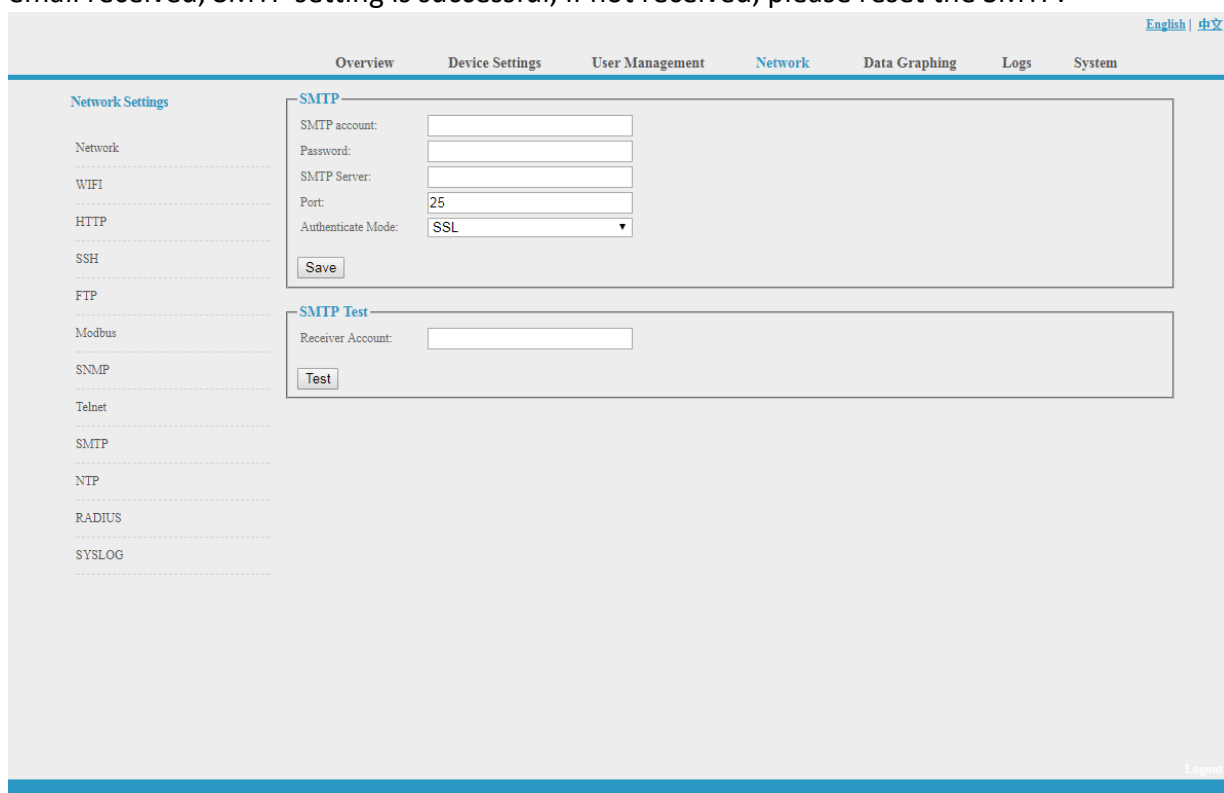

Figure 1-13
I. SMTP: Click SMTP from the network setting tap to enter the SMTP setting as figure 1-13. Fill in the parameters of SMTP service including SMTP account, password, SMTP server, port and authentication mode. After save, must restart the software to take effect. SMTP test: fill in the receiver account, click “Test” and then check the test receiver account. If test email received, SMTP setting is successful; if not received, please reset the SMTP.